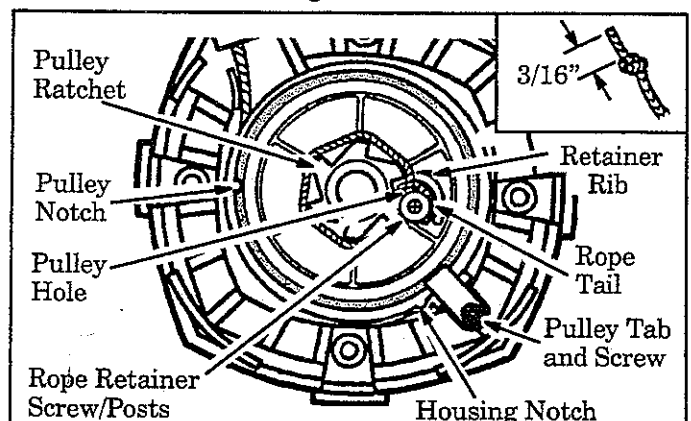

Figure 34
9. Hand turn the pulley clockwise as far as it will go. Then, turn the pulley counterclockwise until the pulley notch is aligned with the housing notch next to the pulley tab and screw. Figure 34 .
15. Insert one end of the rope through the handle and secure with a knot. Leave a 3/16" tail behind the knot. Figure 34 (inset).
16. Insert the other end of the rope through the rope exit hole into the inside of the housing, into the pulley and up through the pulley hole. Figure 34 .